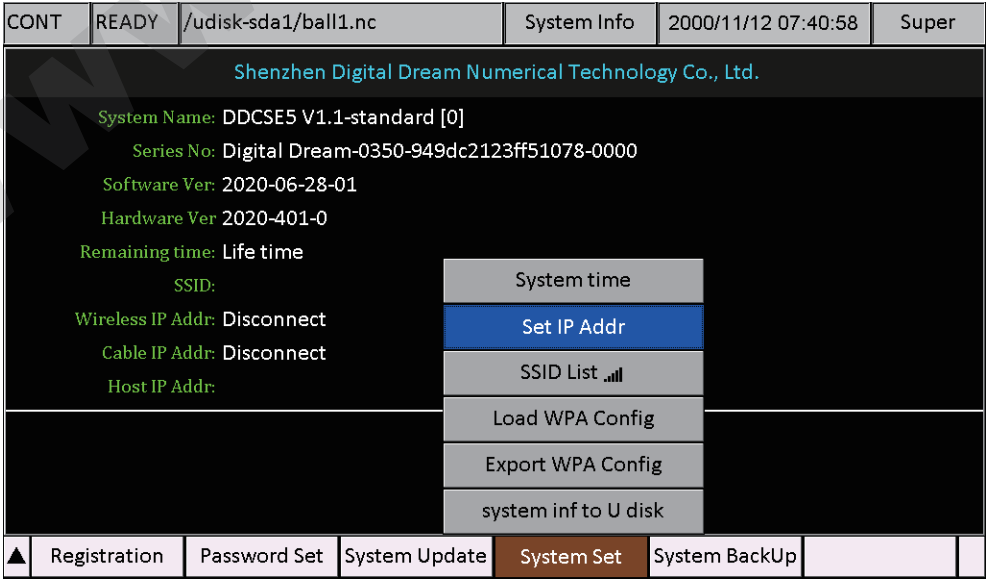

Figure 21 Set IP Address
- 2) Press F4 and choose “Set Ip Addr” as Figure 21 shows;